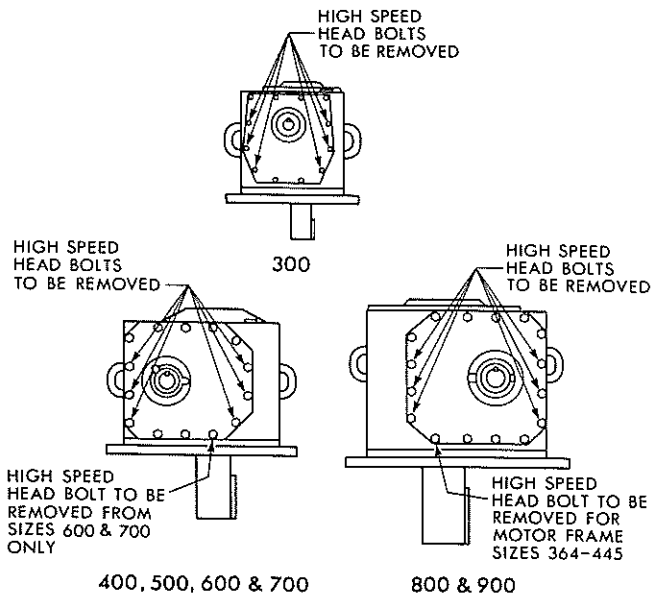

Figure 1
- A. Remove appropriate H.S. end fasteners as instructed in Figure 1.